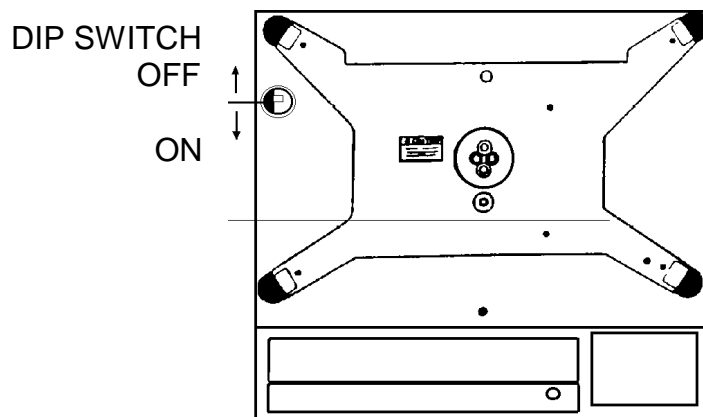

FIGURE 4
5. Slide the Set-up Switch to the ON position, as shown in figure 4.